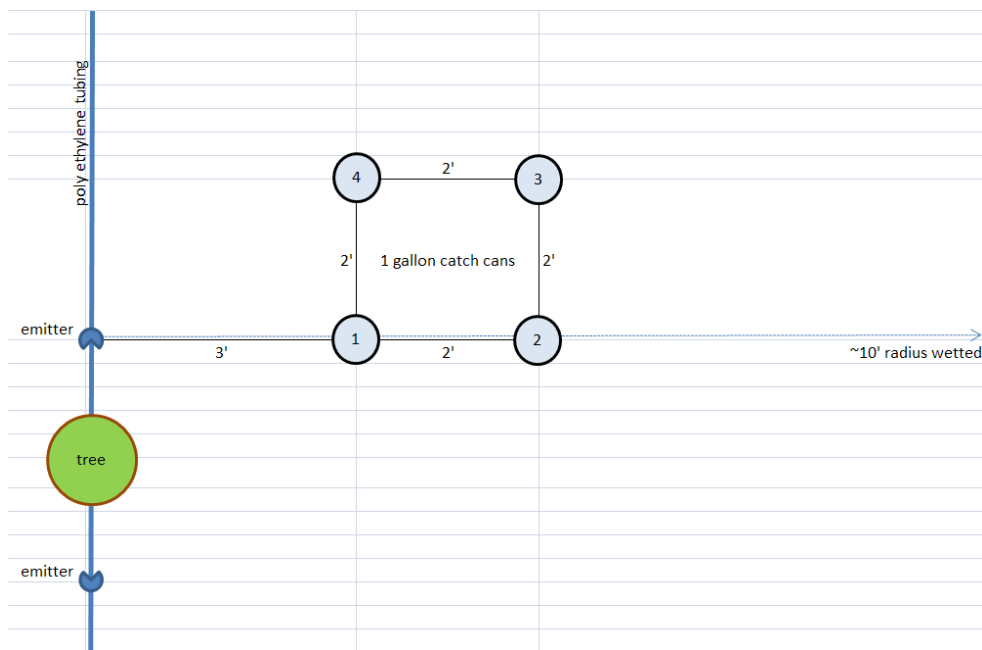

Figure 1. Position of catch cans to evaluate micro-sprinkler pattern.
- c. Place 4 shallow collection cups at 4 predetermined distances from the micro sprinkler (Figure 1).